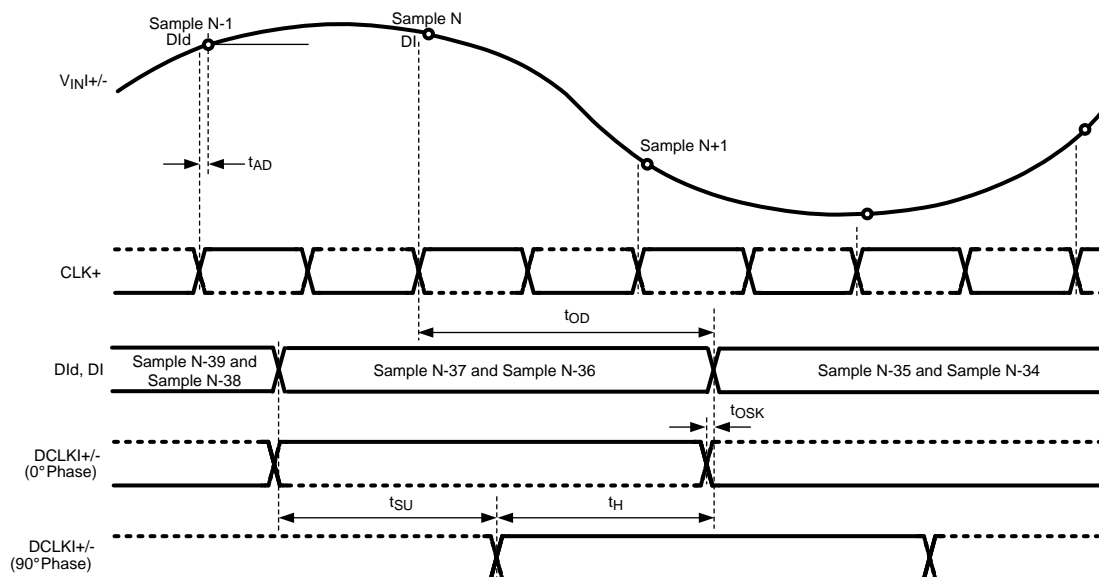
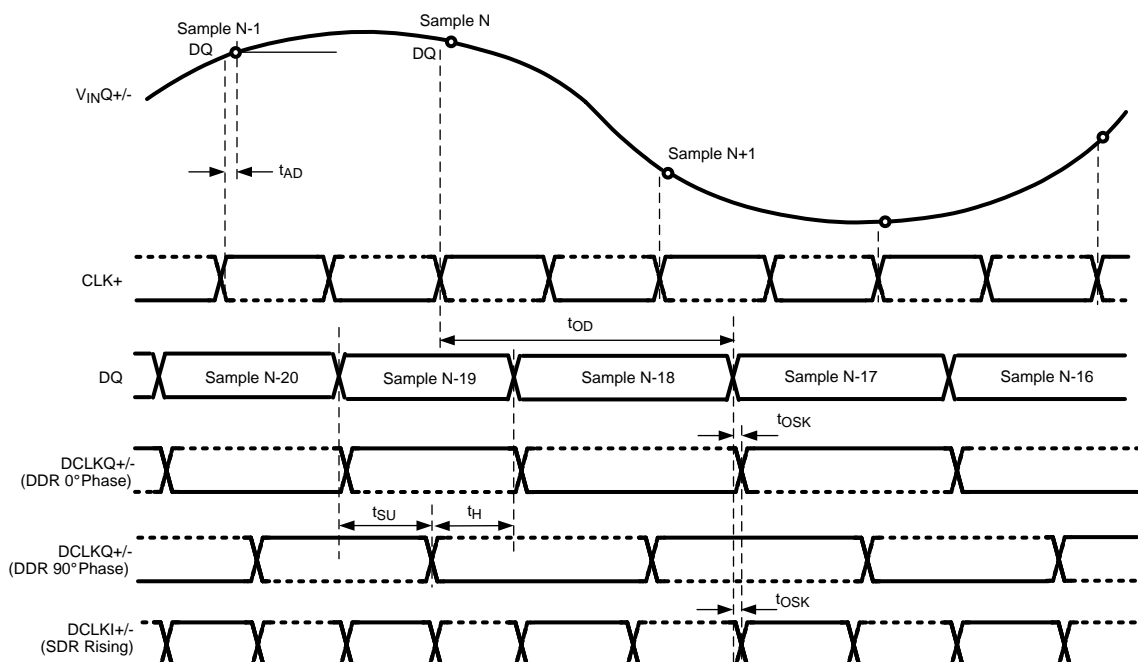

Figure 1. Clocking in Non-LSPSM, 1:2 Demux, Non-DES Mode*
Figure 6. Clocking in LSPSM, Non-Demux Mode, Non-DES Mode*
* The timing for Figure 1 through Figure 6 is shown for the one input only (I or Q). However, both I and Q inputs may be used. For this case, the I channel functions precisely the same as the Q channel, with V_{inI} , $DCLKI$, DId , and DI instead of V_{inQ} , $DCLKQ$, DQd , and DQ . Both I and Q channel use the same CLK.